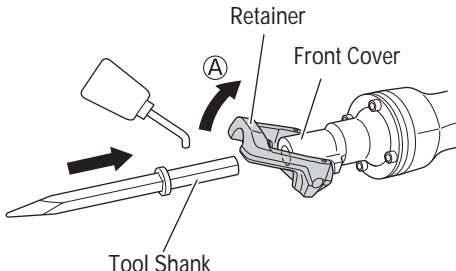

Fig. 4
- (1) Clean, then smear the accessory shank portion with grease or machine oil.
- (2) Move the retainer to open position Ⓐ and seat the accessory, such as a bull point, a cutter, etc., in the hexagonal hole in the front cover (See Fig. 4).